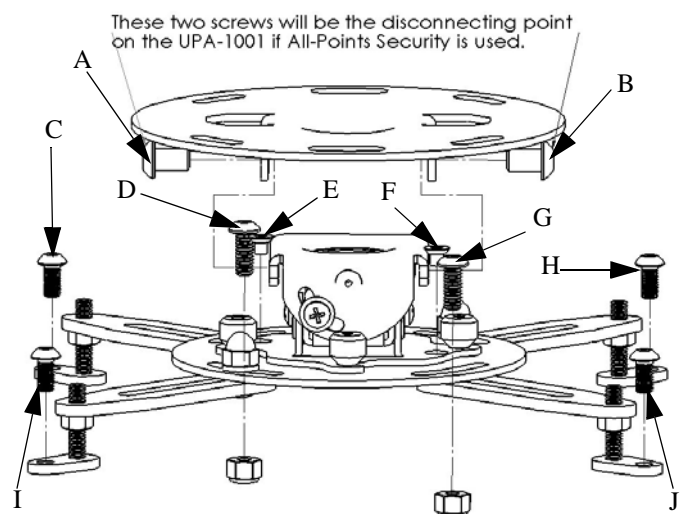

Figure 11. Remove and Replace Screws and Set Screw For UPA-1001
2. For model UPA-1001, remove 10 screws (A through J) (see Figure 11).